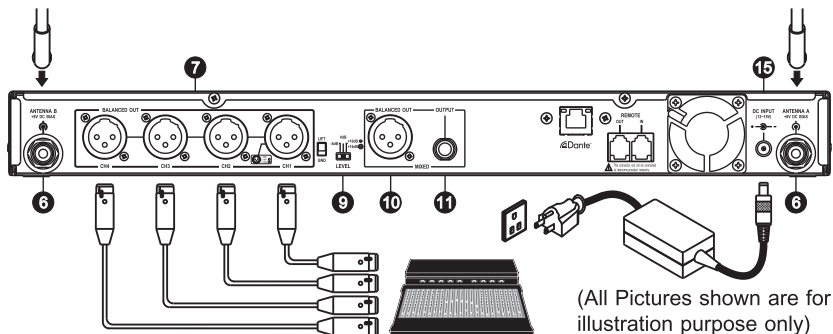

Fig. 2
II. Receiver Installation. Fig. 2
- (A) Each channel signal output can be connected to the mixer or amplifier's MIC IN jack by an XLR Male to XLR Male microphone cable. Fig. 2